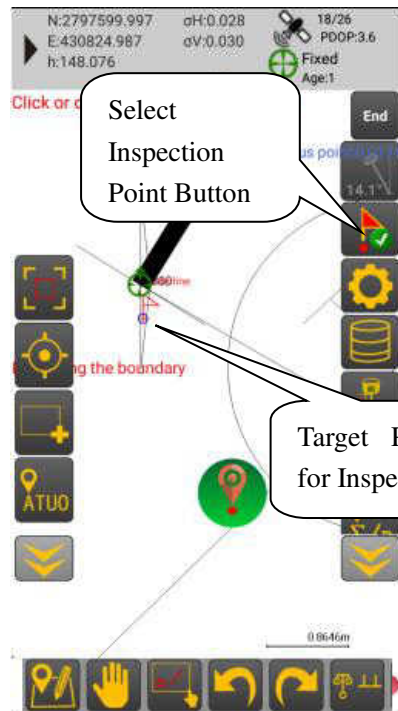

Figure 4.8-1
1、 Click the “Select Point” button  , when the button is checked  , you can specify the location of the inspection point on the diagram by capturing the designated point using object snapping, as shown in Figure 4.8-1.